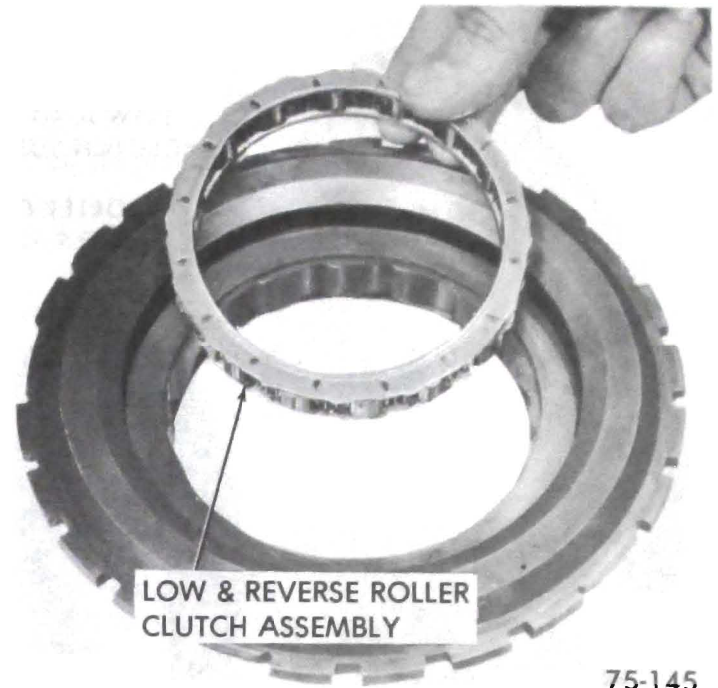

Figure 75-211
4. Remove low and reverse roller clutch assembly and visually inspect the rollers for wearing and scoring and check for any springs that may be collapsed. See Figure 75-211.